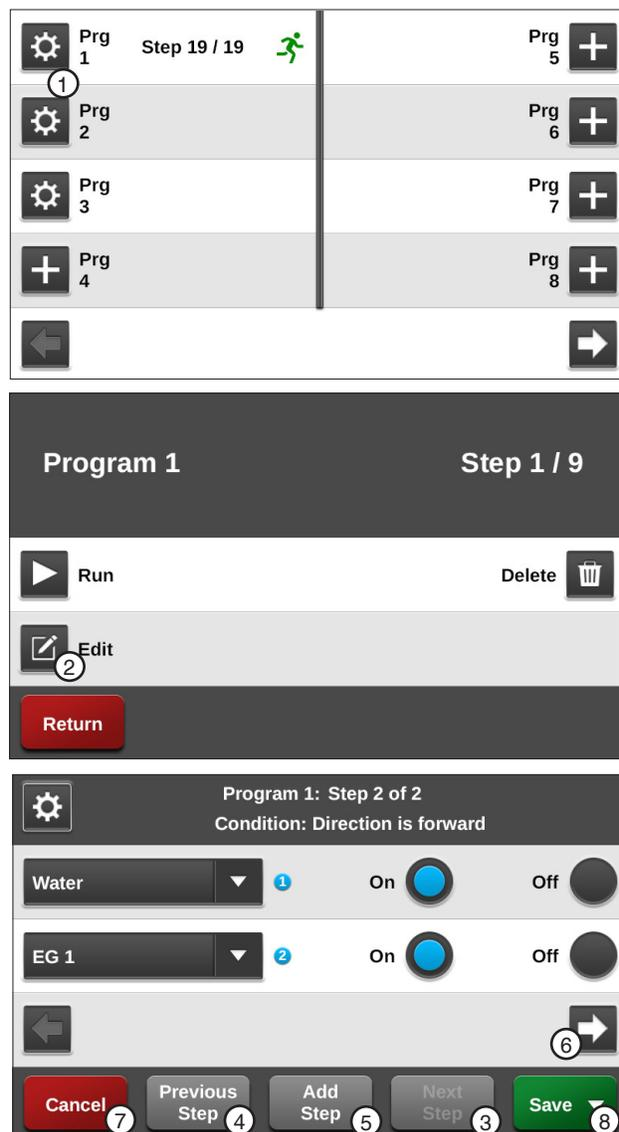

Figure 104-1 1. Settings 5. Add Step
2. Push the **Settings** button corresponding to the preferred program number as shown in Figure 104-1.